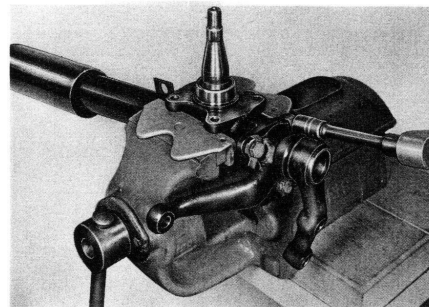

Fig. 11
5. Install steering lever attaching hex bolts and torque to 4,7 mkp (34 lb-ft); use new safety plates (see Fig. 11).